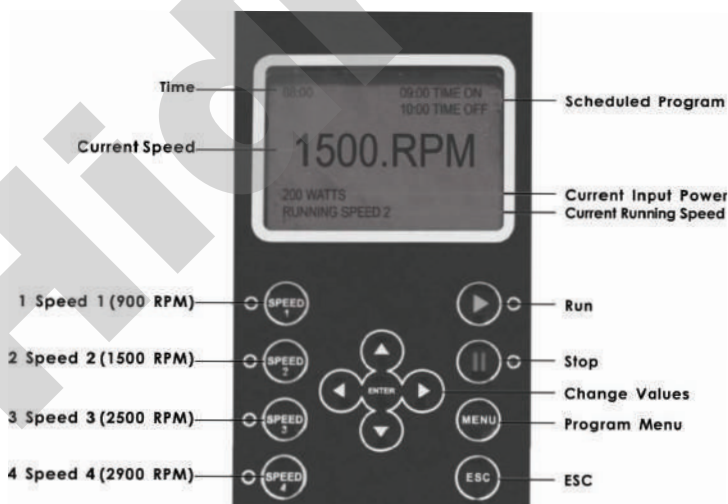

FIGURE 5
4. Be sure the control panel display is active and press the “Run” button to begin priming. See Figure 5.